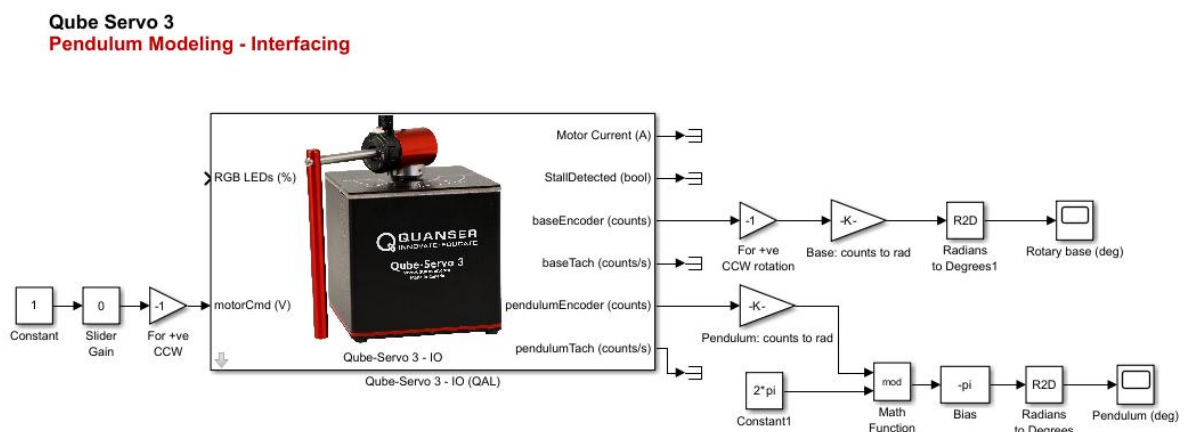

Figure 2: Simulink model that includes the modulus and bias blocks.
11. Add a **Modulus** and **Bias** block to the Simulink model so that the pendulum angle α is 0 rad in the upright position and is bounded by $\pm\pi$ rad. The model should look similar to Figure 2 below: